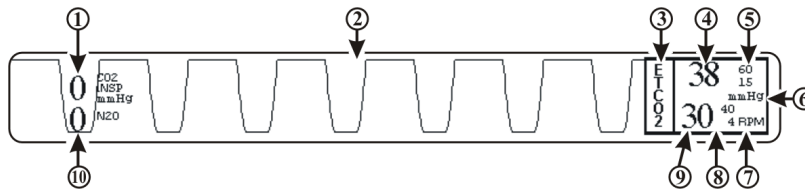

Figure 4-15. The EtCO2 Display
4.4.3 Associated Waveforms and Displays (See Figure 4-15) EtCO2 information is displayed as a waveform in Trace Location D and as numeric data in Box 4. The following is a description of the items contained within the EtCO2 Display: